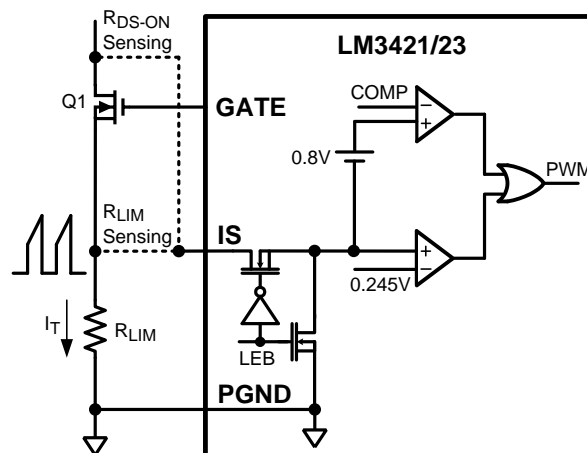

Figure 15. Current Sense / Current Limit Circuitry
The LM34xx-Q1 achieves peak current mode control using a comparator that monitors the main MOSFET (Q1) transistor current, comparing it with the COMP pin voltage as shown in Figure 15. Further, it incorporates a cycle-by-cycle overcurrent protection function. Current limit is accomplished by a redundant internal current sense comparator. If the voltage at the current sense comparator input (IS) exceeds 245 mV (typical), the on cycle is immediately terminated. The IS input pin has an internal N-channel MOSFET which pulls it down at the conclusion of every cycle. The discharge device remains on an additional 210 ns (typical) after the beginning of a new cycle to blank the leading edge spike on the current sense signal. The leading edge blanking (LEB) determines the minimum achievable on-time (t_{ON-MIN}).